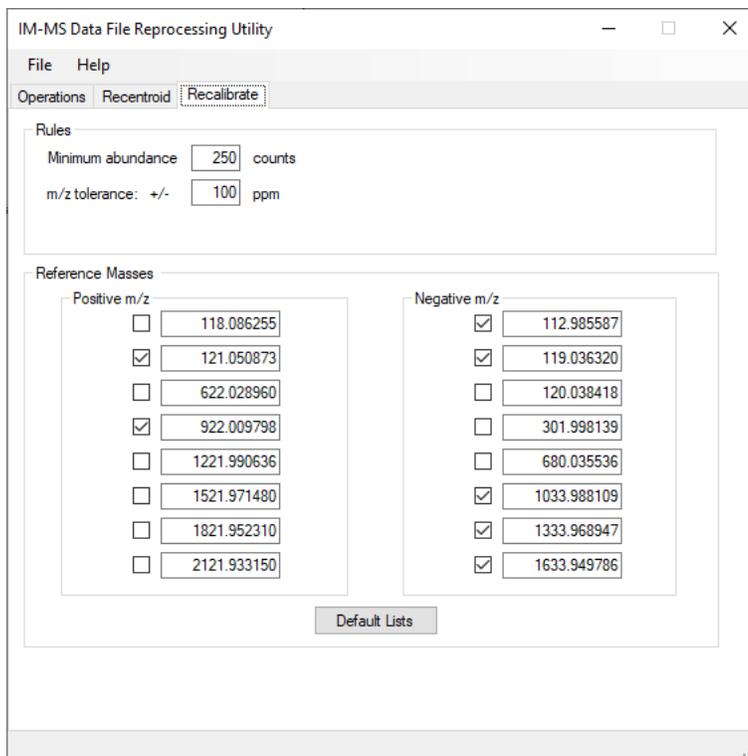
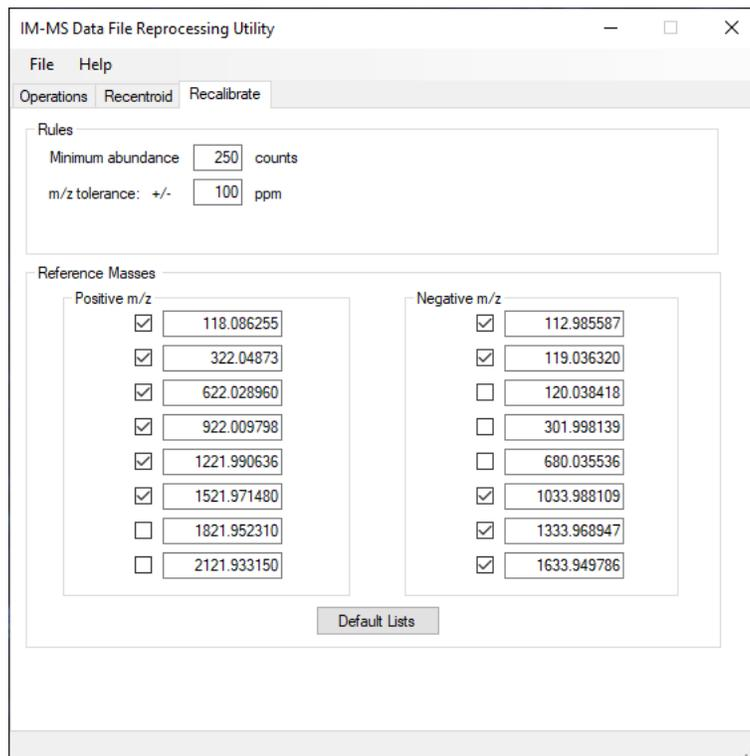

Figure 4. Recalibrate tab with positive ions selected for the sample files (default)
Figure 5. Recalibrate tab with positive ions selected for the tune-mix files
The Recalibrate dialog box appears. See **Figure 4**.
Make sure to edit the positive mass values when switching between a tune-mix file (118, 322, 622, 922, 1221 and 1521) and a sample data file, which likely has only 121 and 922 present. Replace the 121 value with 322.04873 for the tune-mix files. Don't worry about marking the Negative m/z check boxes at this time. Use **Figure 4** on page 18 for the sample files and **Figure 5** for the tune-mix files.
- b If more than half the scans are still missing ions, check the data file in IM-MS Browser to verify that the reference mass ions meet the Rules values specified on the Recalibrate tab. See **Figure 4** on page 18.
Remember that for sample files you mark the positive ions in **Figure 4** on page 18 and for tune-mix files you mark those in **Figure 5** on page 19.